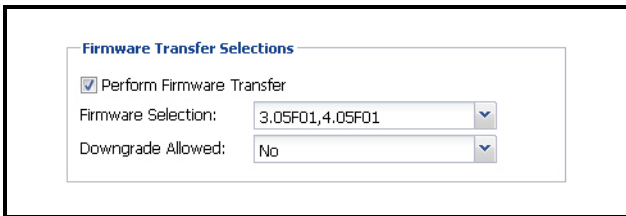

Figure 6-27 - Select the Firmware Package to Transfer
3. Under **Firmware Transfer Selections** (Figure 6-27), enable the **Perform Firmware Transfer** checkbox then select the appropriate firmware package under the **Firmware Selection** drop-down list:
4. Select whether a downgrade will be allowed (Figure 6-27). If the firmware selection is a downgrade for the selected control system, and it is acceptable for the downgrade to occur, select **Yes**. If **No** is se-
5. Select a firmware file to transfer from a list of firmware files (Figure 6-27) that are stored on the Site Manager server.
**NOTE:** If you wish to perform **language package update only** from this page, disable the **Perform Firmware Transfer** checkbox (Figure 6-27).